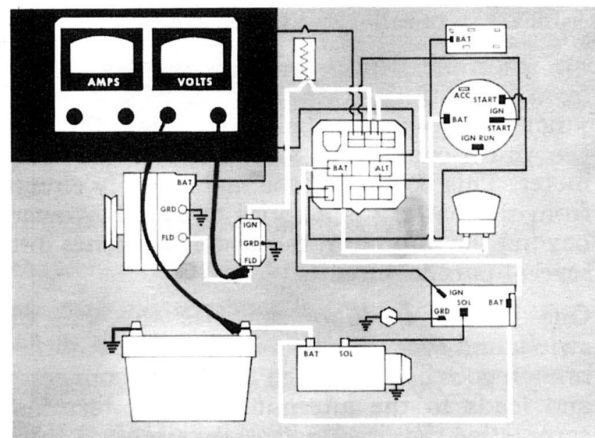

Fig. 2—Field circuit resistance test.
4. Check your test connections with those shown in Fig. 2.